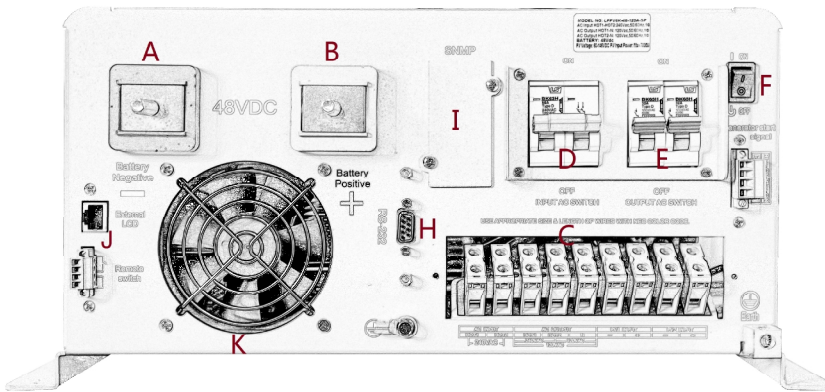

Figure 5. 4KW-6KW Front panel
- Step 2: Following the wiring guide located in the AC input wiring compartment as figure 5, connect the GND (green/yellow), HOT1 (brown), and HOT2 (red) wires from the AC input (utility, generator, etc) to the terminal block.